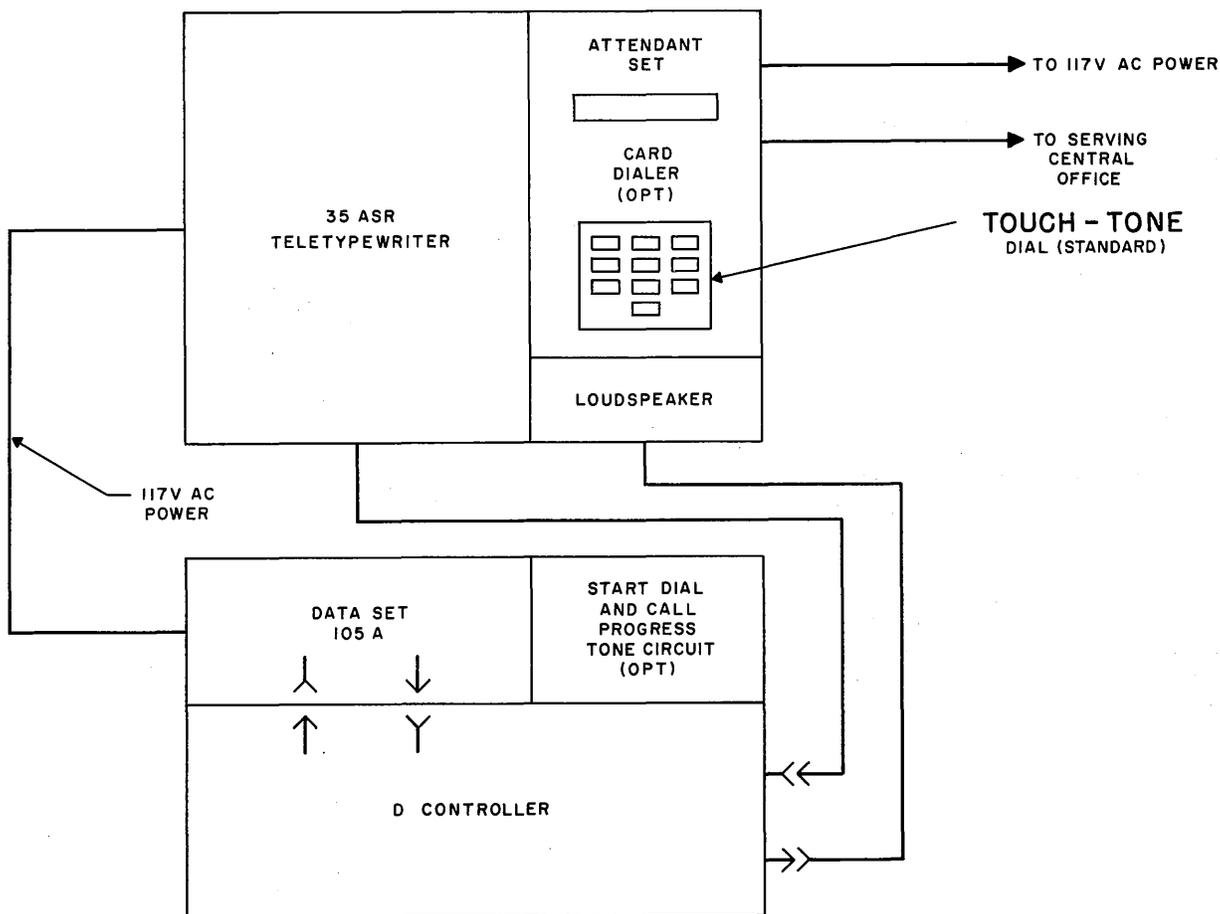
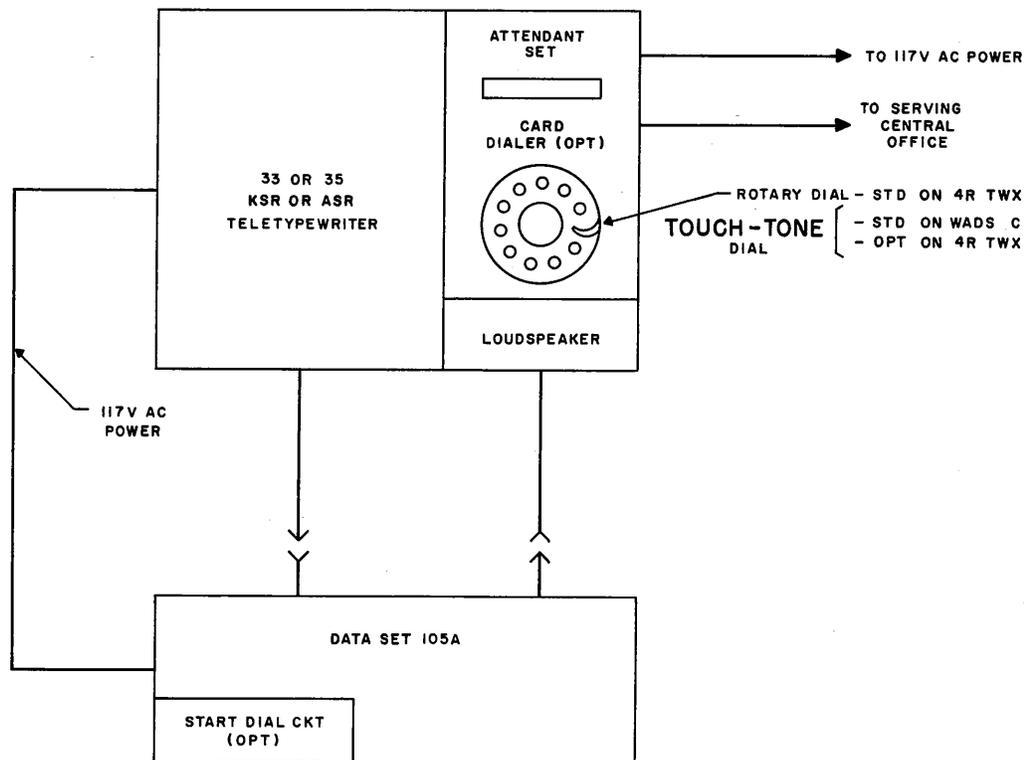

Fig. 4 - Block Diagram, WADS-D Station with Controller (Typical)
Fig. 5 - Block Diagram, WADS-C Station (4-Row TWX Service)
2.08 Fig. 4 is a block diagram of a typical WADS-D station with a controller. Fig. 5 is a block diagram of WADS-C or 4-row TWX service.